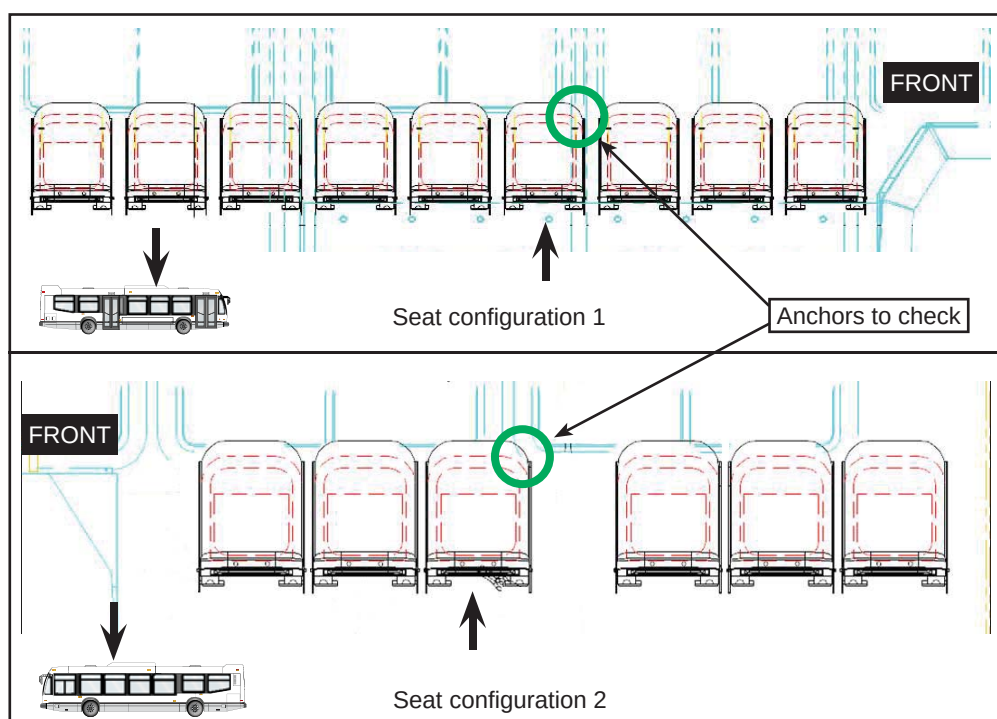

Figure 1 - Location of the First Flip-up Seat Depending on your Configuration
- 1.1. Look at your seat configuration in the client list and locate the first flip-up seat to be checked in the vehicle. See Figure 1.
- 1.2. Depending on your configuration, locate the flip-up seat anchor to be checked. See Figure 1.